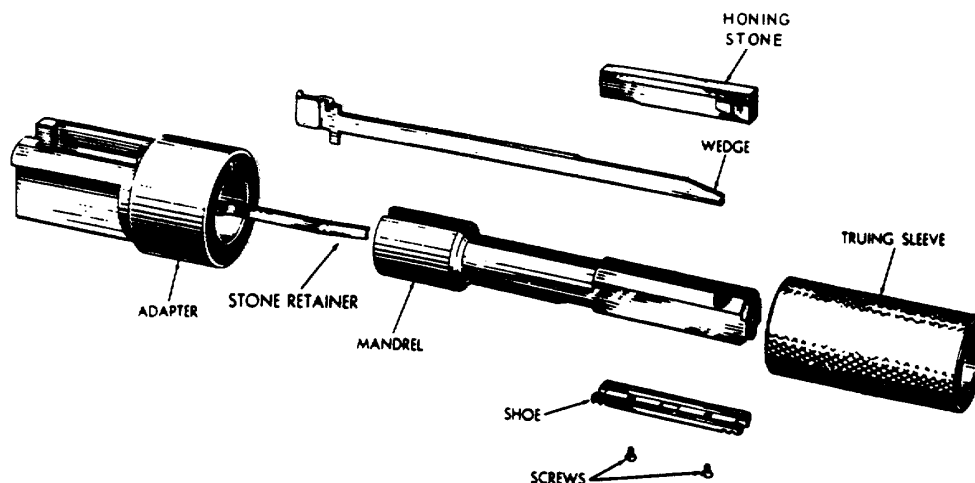
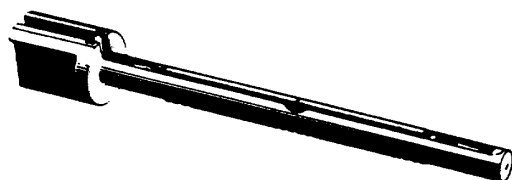

FIGURE 50
FIGURE 51
- a. The principal components of a honing unit are the Adapter, Mandrel (including Shoes), Wedge, Honing Stone, and Truing Sleeve (Figure 50). The Adapter and Mandrel may be two separate parts (Type KL honing units, Figure 50) or they may be made together in one piece (Type SL mandrels, Figure 51).